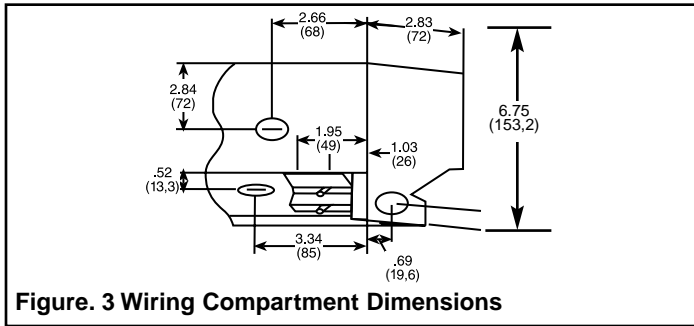

Figure 3 Wiring Compartment Dimensions
NOTE: Make sure the caution label with the word "TOP" is at the top of the heater. For most efficient operation locate heaters along outside wall under windows. Position heater so it can be secured to wall stud. Power cable must enter heater through one of the knockouts provided in wiring compartment. See Figure 3.
5. Loosen screw in built-in cable clamp or remove desired knockout from heater wiring compartment (Figures 3 and 4). Install power cable into wiring compartment allowing at least 6in(153mm) of cable for connection to heater. To install two power cables using the built-in cable clamp, bend tab covering second hole up and back to rear wall of wiring compartment. If built-in cable clamp is not used, install approved cable connector (not included) in desired knockout.